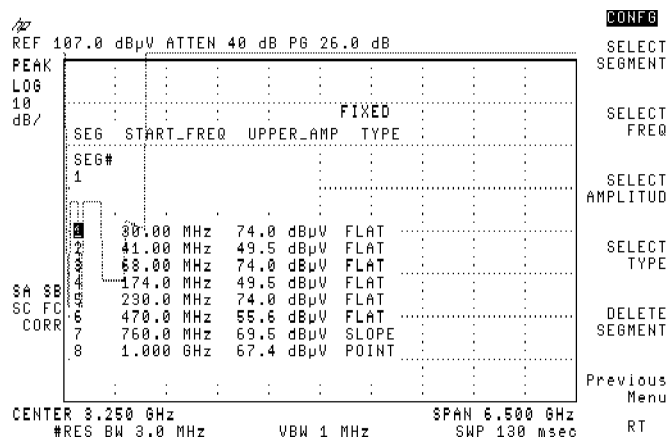

Figure 3-65. Editing a Limit Line
3. Press **Edit Limit**. See Figure 3-65.